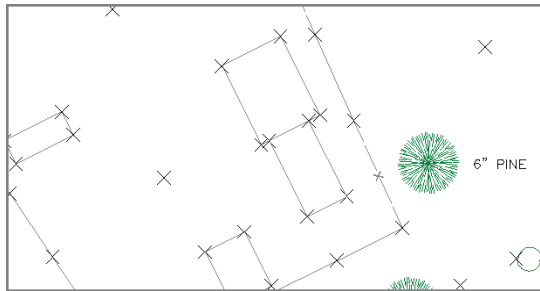

FIGURE 3.7 The result of editing the building figures
12. In the Figure Properties dialog box, set the Closed value to Yes. If necessary, adjust the order of the points using the arrow buttons. Click Apply and then OK when the blue figure outline appears as a rectangle in the drawing. The building figure now appears as it should, and the two separate buildings are represented properly, as shown in Figure 3.7.